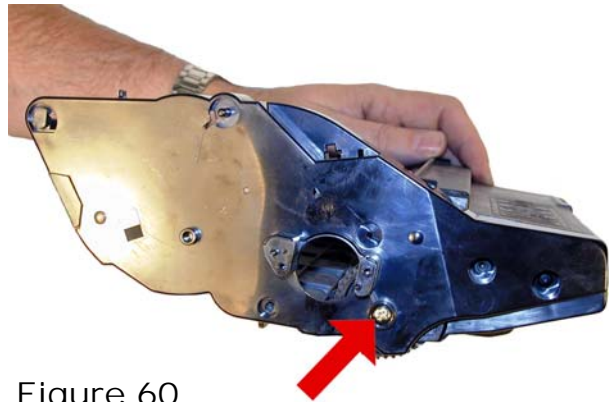

Figure 60
54) Install the gold screw into the drum axle. **Figure 60**